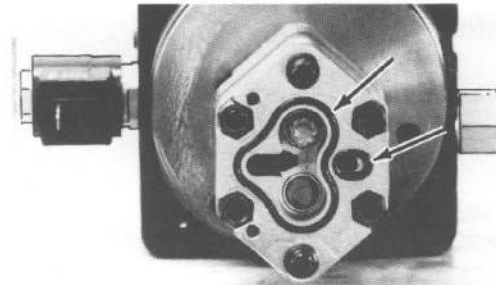

Figure 2-25
15. Install O-ring seals into pump cavities (apply a light film of Petroleum jelly to hold them in place). See Figure 2-25.